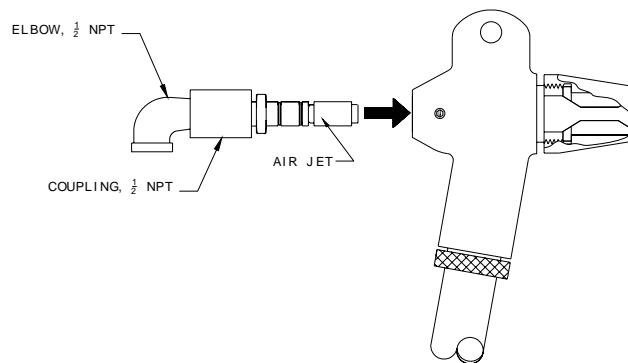

FIGURE 7. AIR JET MOUNTING
Step 5: Loosen the setscrew on the side of the gun body and remove the gun body for the air jet. See Fig. 7.